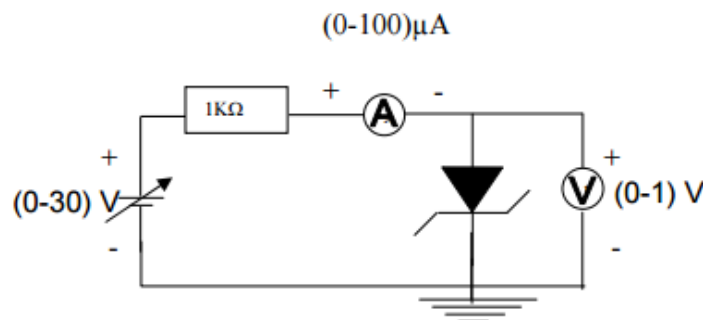

Figure 7.3: Zener Diode in Forward Bias
1. Assemble the circuit on the breadboard as shown in Fig. 7.3. connect to the 0-30V dc power supply.